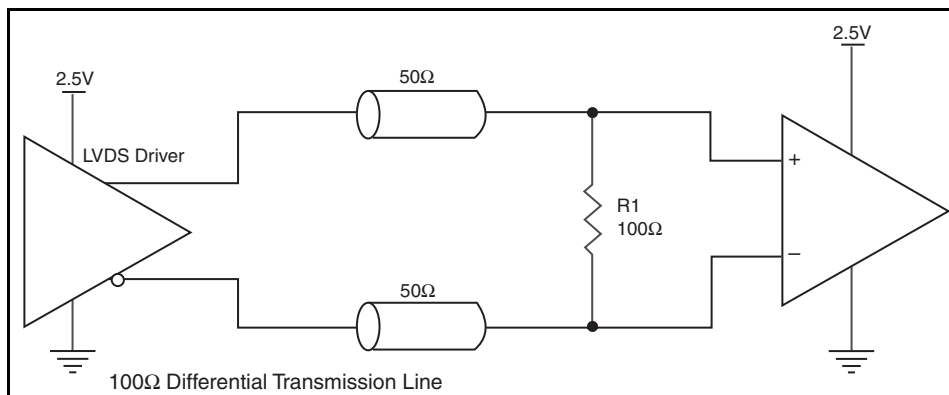

Figure 5. Typical LVDS Driver Termination
*Figure 5* shows a typical termination for LVDS driver in characteristic impedance of  $100\Omega$  differential ( $50\Omega$  single)